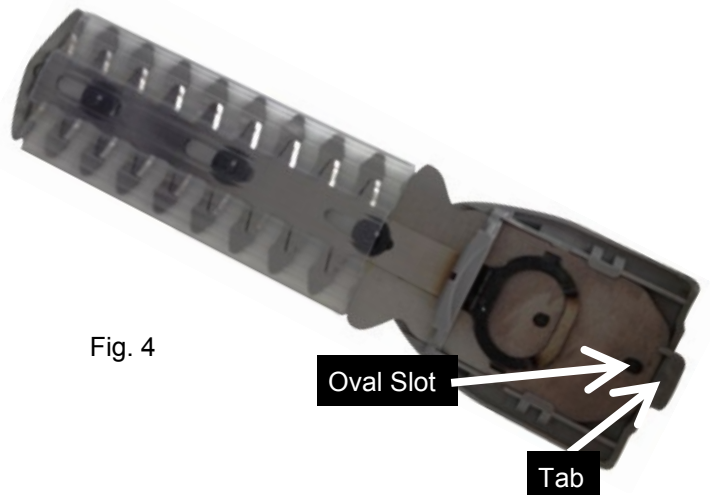

Fig. 4
3. To attach the shrub trimming blade, slide the tab (see fig. 4) into the slot (see fig. 5) in the housing. Align the gear pin (see fig. 5) with the oval slot (see fig. 4) on the blade to make them fit precisely. Push the blade cover plate upward (see fig. 6) until you hear it snap closed. The blade cover plate will be tightened to the unit when it is started.